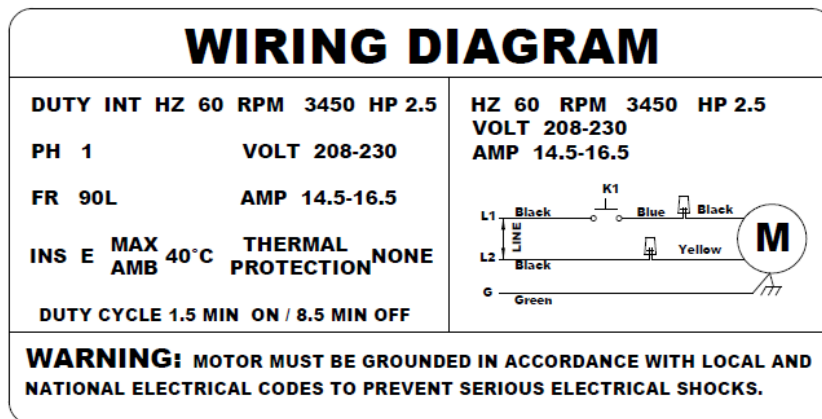

Fig. 14
1. Have a certified electrician make the electrical connection to the power unit. Use separate circuit for each power unit, as shown below in (Fig. 14).